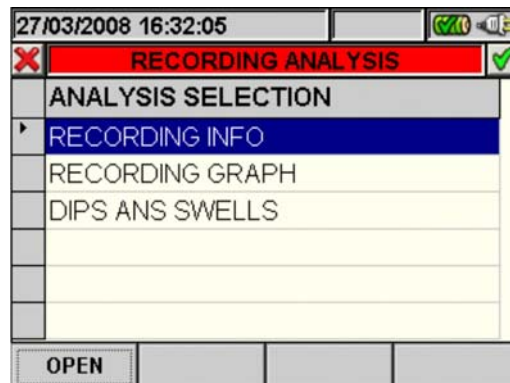

Fig. 114: Recording analysis (Reg-type data)
2. Press the **ESC** key (or the smart icon ) to exit the function and go back to the “Recording analysis” page (Fig. 114).
- The **ESC** key (or smart icon ) to exit the function and go back to the “Recording analysis” page (Fig. 114).